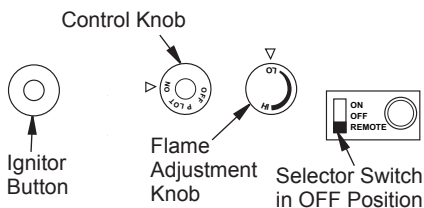

Figure 30 - Control Knob and Ignitor Button Location
4. Press in and turn control knob clockwise  to the OFF position (see Figure 30, page 23).
5. Wait five (5) minutes to clear out any gas. Then smell for gas, including near the floor. If you smell gas, STOP! Follow "B" in the safety information, column 1, page 22. If you don't smell gas, go to the next step.
6. Press in and turn control knob counterclockwise  to the PILOT position. Press in control knob for five (5) seconds (see Figure 30).